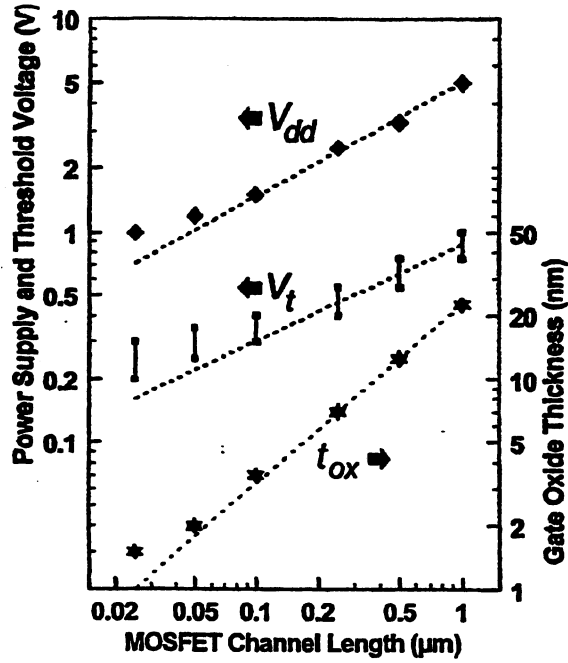

Figure 2
2. (a) Explain with reference to the data in Fig. 2 what is meant by *device scaling* for silicon integrated circuits. Illustrate your answer with sketch cross sections of devices. Comment on the present state of the technology, making a distinction between the applications in (i) memory devices, and (ii) high-performance microprocessors. What are the approaching physical limits, to what extent can they be avoided, and what is the five year prospect for complementary metal oxide semiconductor (CMOS) technology? [30%]